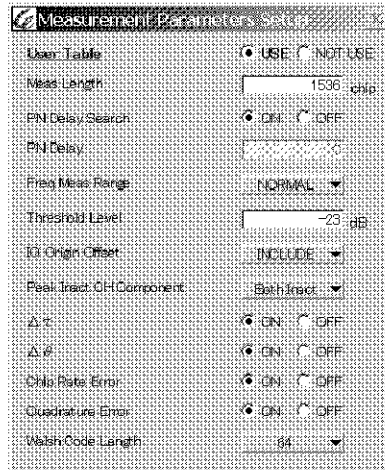

Figure A-7 [Measurement Parameters Setup] Dialog Box when Using [User Table]
2. Set **[USE]** of the **[User Table]** option button in the **[Measurement Parameters Setup]** dialog box. This instrument is set so that User Table set in previous step 1 is used. (See Figure A-7)